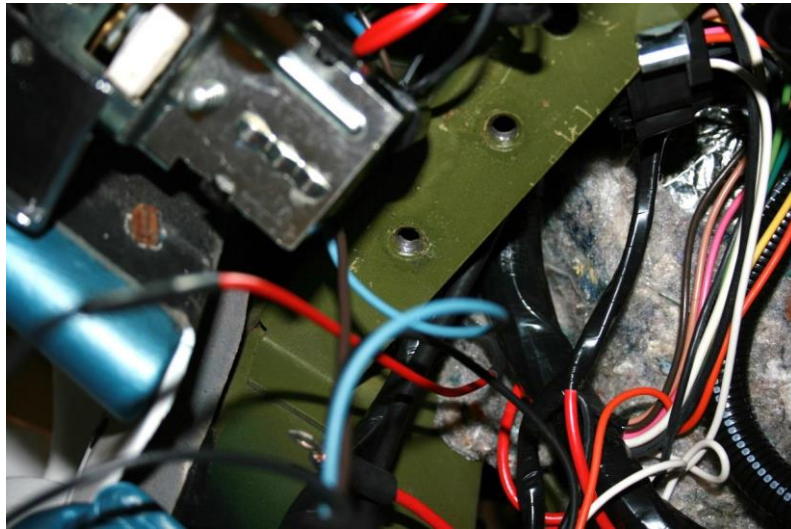

Figure 12 - Locate Module under Dash
27. The Detroit Speed Electric Headlight Door Kit Control Module bracket is designed to be mounted to the two threaded holes on the far left side of the dash just above the driver's side kick panel (Figure 12 on the next page). If the vehicle has the hood release cable bracket mounted in these holes, remove the two bolts that hold the hood release cable bracket.